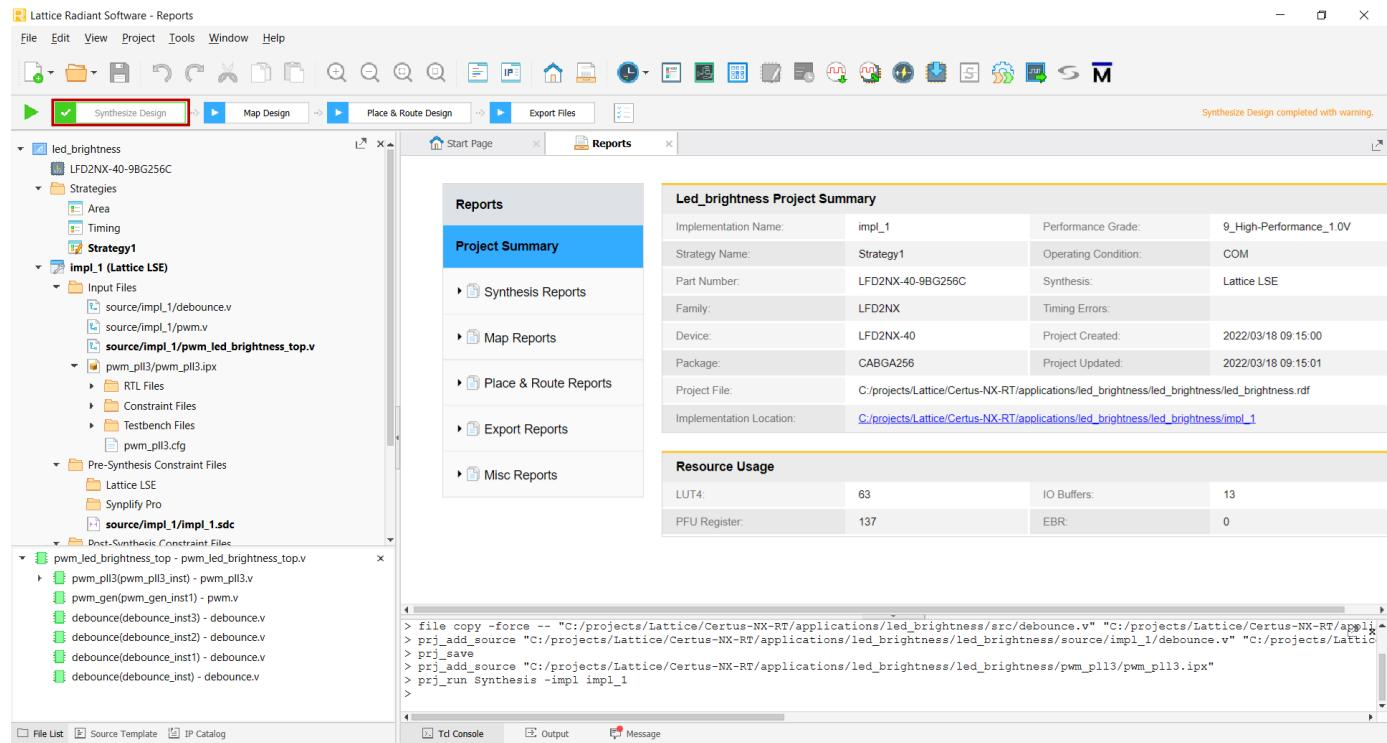

Figure 12: Synthesizing the Design
13. Synthesize the design by clicking on the **Synthesize Design** arrow, see **Figure 12**.